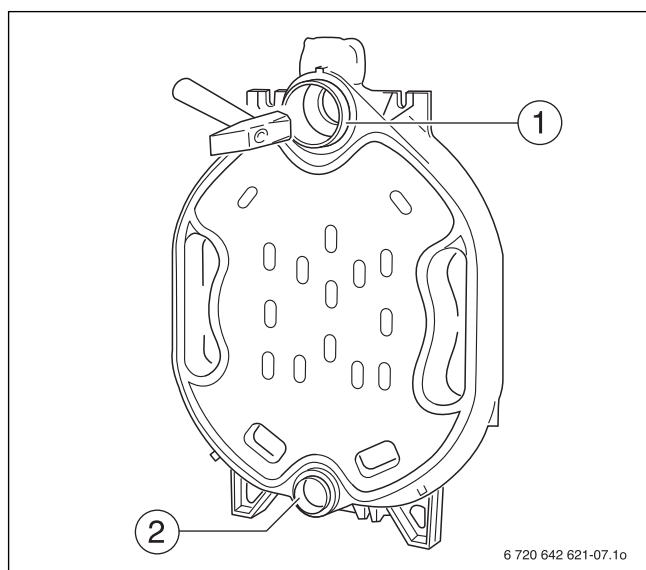

Fig. 11 Driving nipples home
- ▶ Insert the nipple straight into the upper (Sz. 2, 119/50) and lower (Sz. 0, 57/50) hub of the rear section and hammer home securely with alternate heavy blows. The upper nipple (Fig. 11, [1]) and the lower nipple (Fig. 11, [2]) should protrude approx. 28 mm out of the corresponding hub once they have been driven in.